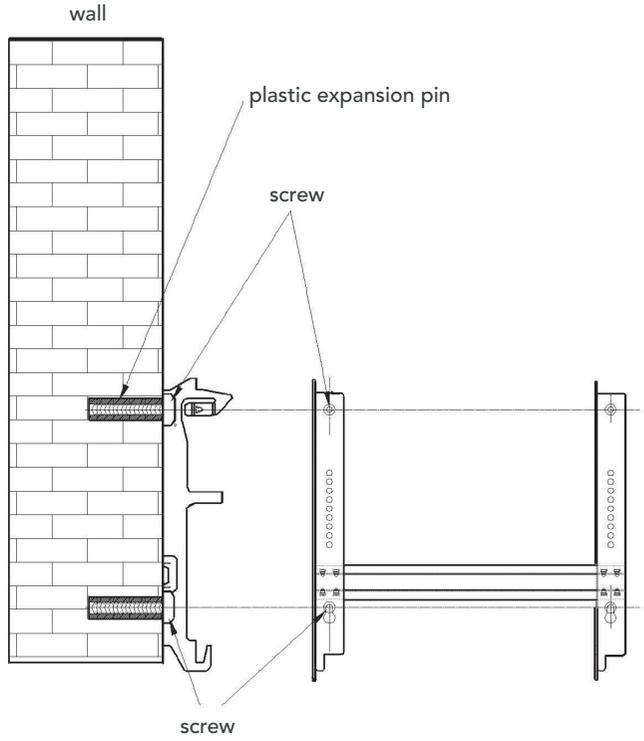

Fig. 5
- 4 Insert the plastic expansion pin into the four holes on the wall, and firmly affix the fixture to the wall using 4 screws. See Fig. 5.